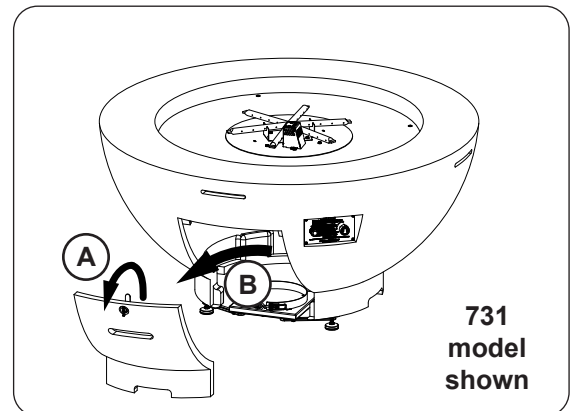

Fig. 29-2 Remove storage door (if applicable)
2. If equipped remove the storage door by first turning the door handle counter-clockwise, then carefully pulling the door outward (see Fig. 29-2). Store in a safe location.